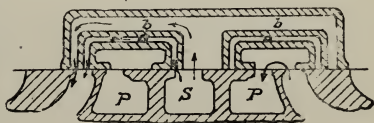

FIGURE 53.
*Multiple ported valves* are those valves which admit steam to the cylinder through two or more steam passages. Figure 53 illustrates a cross section of a valve of this type known as the Giddings valve. Steam reaches the inside of the valve through the main port *S*, and from this point travels through ports *a* and *b* in the interior of the valve to the left hand steam port. The exhaust passes